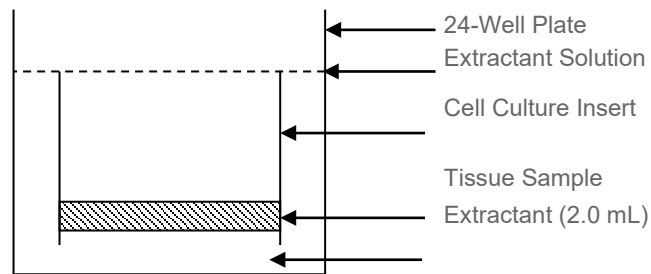

Figure 3: Extraction Configuration (room temperature in dark)
f) **Add extractant:** Immerse the cell culture inserts with 2.0 mL of the extractant solution per well to completely cover the cell culture insert. See Figure 3. Cover the extraction plate to reduce evaporation of extractant. Note: If the test article is colored and does not completely rinse off, pipet 1.0 mL of extractant into